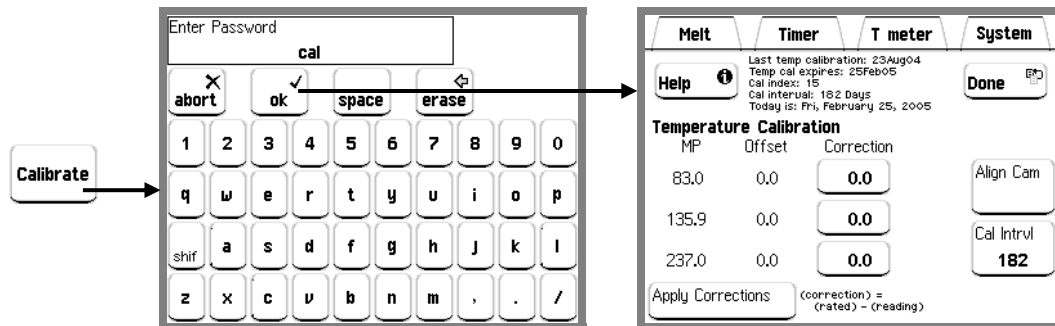

Figure 36. Calibration Menu.
Press the Calibrate button on the System screen and enter the calibration password to enter the Calibration menu (Figure 36). Enter the Calibration Password when prompted. All units have the same password.
3. Press the Calibrate button on the System screen and enter the calibration password ('cal') to enter the Calibration menu (Figure 36). All units have the same password. See Figure 36.